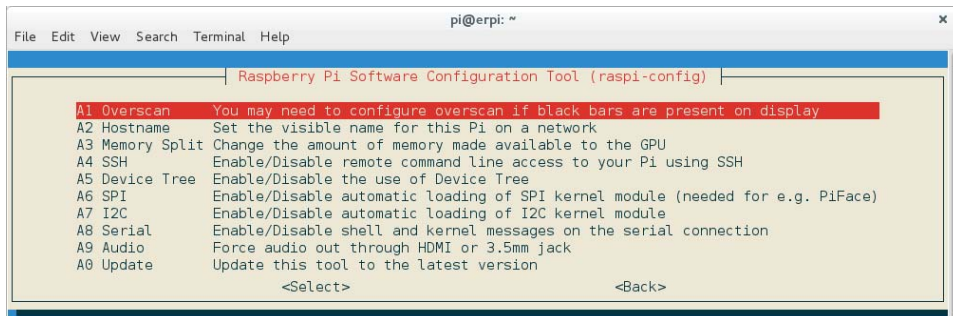

Figure 2-8: The raspi-config tool Advanced Options menu
- **Overscan (Advanced Options; see Figure 2-8):** Allows you to adjust the video output to the full screen of your television. This option makes changes to the `/boot/config.txt` file.
The options that remain in Figure 2-8 typically also modify the `/boot/config.txt` file and are described throughout Chapter 6 and Chapter 8 in particular. For many of the options, you have to reboot the RPi for the changes to take effect because they are initialization settings that are passed to the kernel on startup.